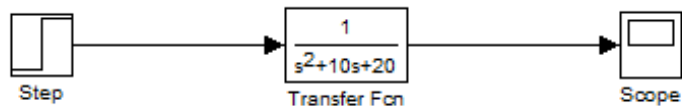

Fig. 7. Second Order Open Loop system
- h. Model a second order system as shown in Fig. 7. You can drag the blocks and drop it in the Simulink model. Consider the second order system transfer function as in (1). Provide a step input to the system and obtain the output waveform from the scope by running the program.